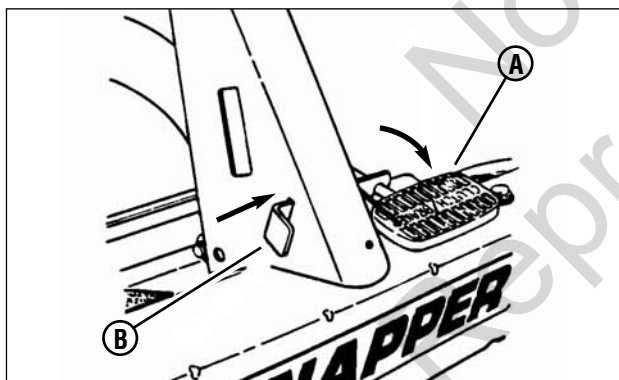

Figure 38: Setting the park brake
3. Depress the clutch/brake pedal (A, Figure 38) all the way down. Move and hold the park brake lever (B) in the "ON" position and release the clutch/brake pedal to set the park brake.